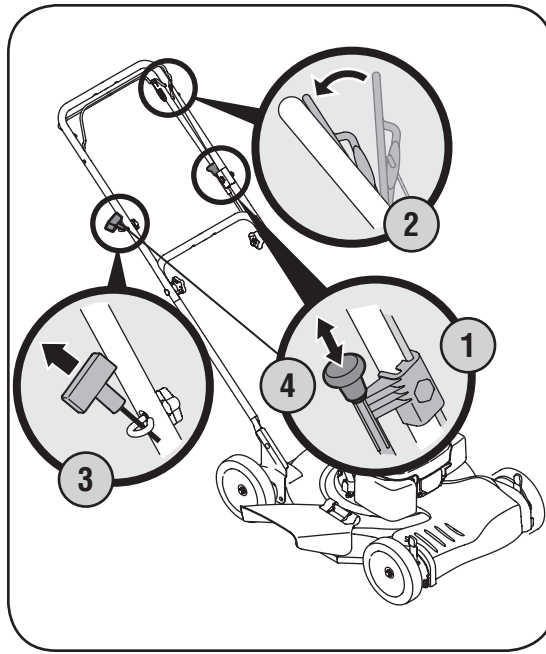

Figure 4-2
1. Pull out the choke knob located on the left side of the upper handle. See Figure 4-2.
3. Pull the starter grip lightly until resistance is felt, then pull rapidly to overcome compression, prevent kickback and start engine. Repeat if necessary. See Figure 4-2.
4. When engine warms up, push in the choke knob. See Figure 4-2.